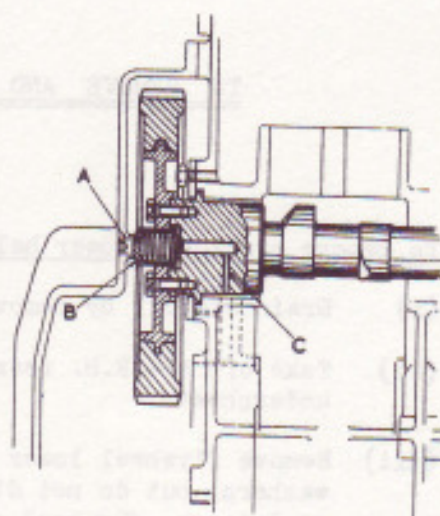

FIG. 2. OILWAYS LUBRICATING CAMSHAFT THRUST BUTTON.
The thrust face of the spring loaded plunger (B, Fig.2) fitted to the front end of the camshaft, and the thrust button (A), fitted to the wheelcase, are lubricated by high pressure oil once per revolution of the camshaft.